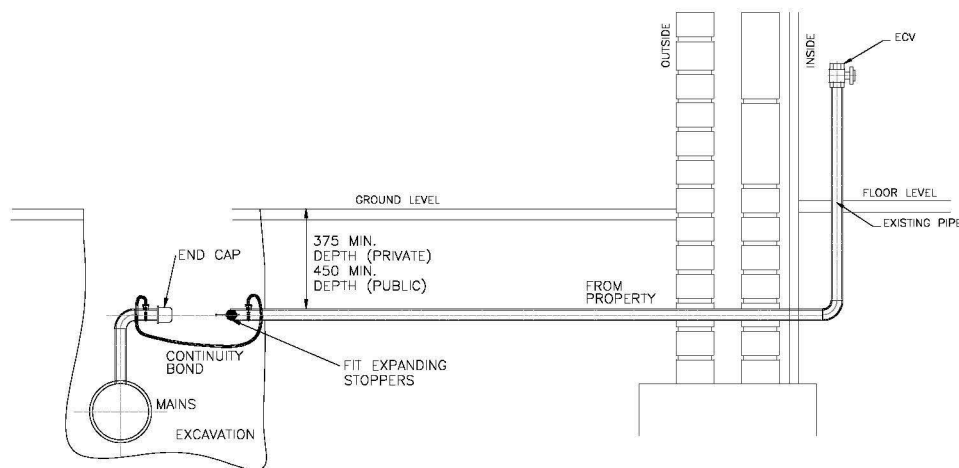

Figure B1d - Service cut off prior to dead insertion – internal position
2. Excavations for dead service insertion should be made at the connection point of main or minimum of 2 metres from property when using mechanical compression fittings (*there is no restriction on distance if using electrofusion fittings*) for insertion back to the meter position only. (Figure B1d & B1e).